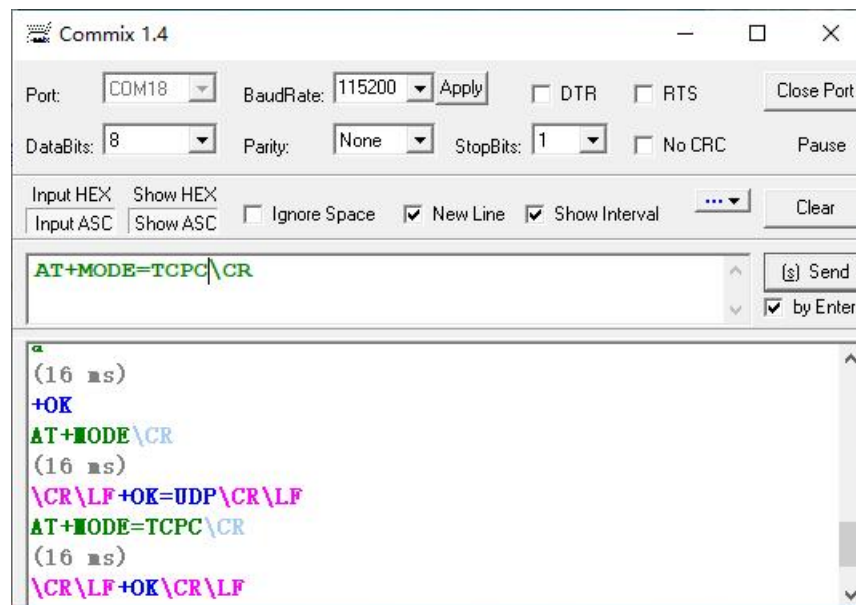

Figure 6-12 AT Command Setting TCP Client Mode
1) Set the module to TCP Client mode with the target port set to 60000. Both AT commands and web pages are available. Take AT command setting as an example, as shown in Figure 6-12. For specific AT command mode entry operation, please refer to. AT Instruction Set Section.
2) As shown in Figure 6-12, the receipt of "+ OK" indicates that the module has completed setting the TCP Client mode. Then exit the at instruction Mode, the program automatically returns to passthrough mode.